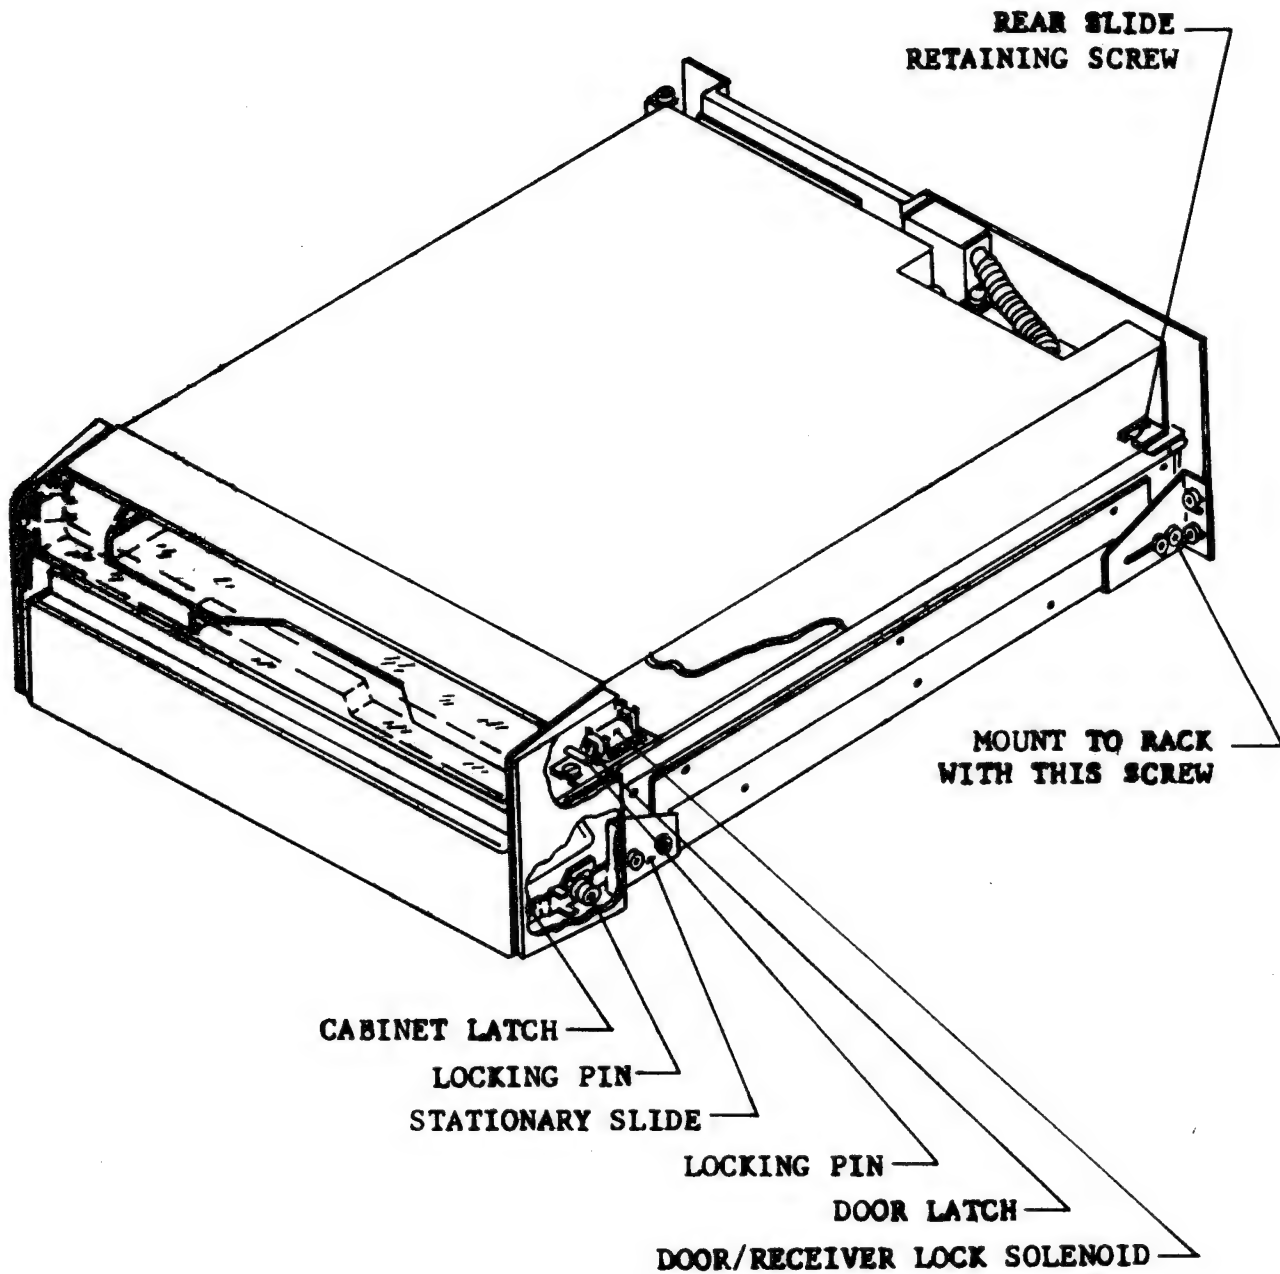

FIGURE 1
- b. Remove the 4 screws securing the slides to the drive. See Figure 1.
- 6.6 Mount the slides in the rack using the mounting hardware provided. The slide brackets may be adjusted to fit the rack by loosening the bracket fastening screws at the front and rear of the slide. The rear of the slide attaches to the rack by means of the bracket adjustment screw. (See Figure 1).